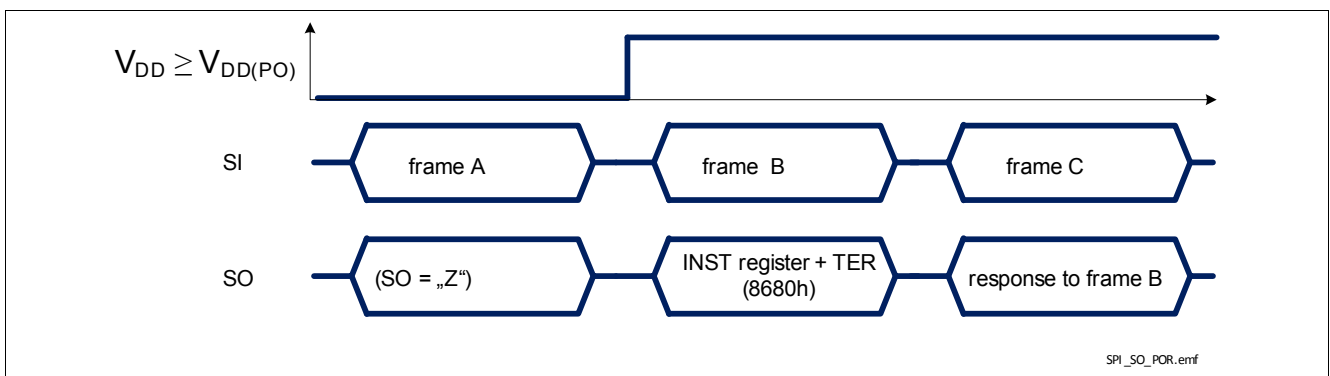

Figure 30 TLE75080-EMD response after coming out of Power-On reset at  $V_{DD}$
- when TLE75080-EMD logic supply comes out of Power-On reset condition or after a Software Reset, as shown in **Figure 30**